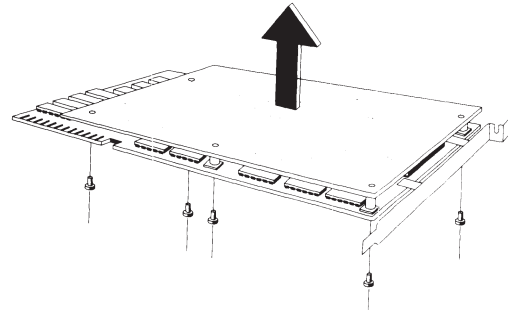

Figure 7-27. Removing the 32-Bit Memory Expansion Board from the 32-Bit System Memory Board.
3. Gently pull the memory expansion board away from the 32-bit system memory board, and set the memory expansion board aside (Figure 7-27).